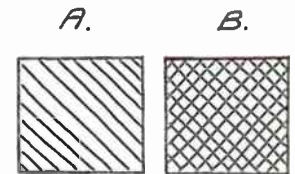

Fig. 3—Cross hatching (B) deepens the tone
Any shadow can be deepened by what is termed 'Cross hatching', that is taking a series of lines in the opposite direction as in (B) Fig. 3. Cross hatching, however, cannot be used with great success on round surfaces, as it generally seems to make a surface look flat.